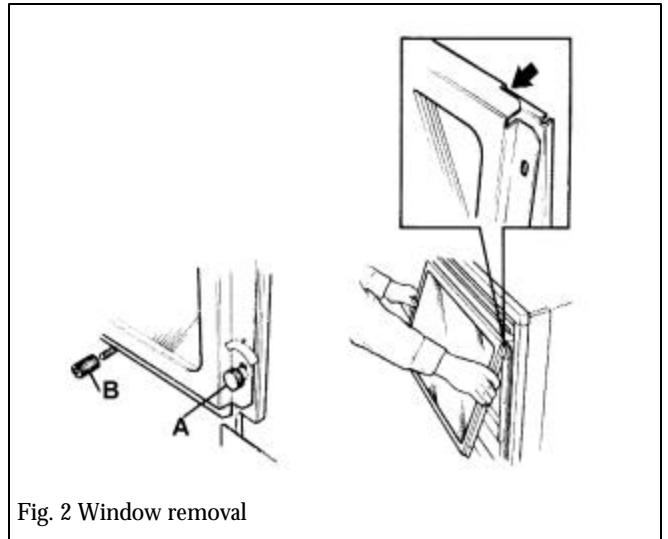

Fig. 2 Window removal
6.1 Remove the window & logs (see figure 2)